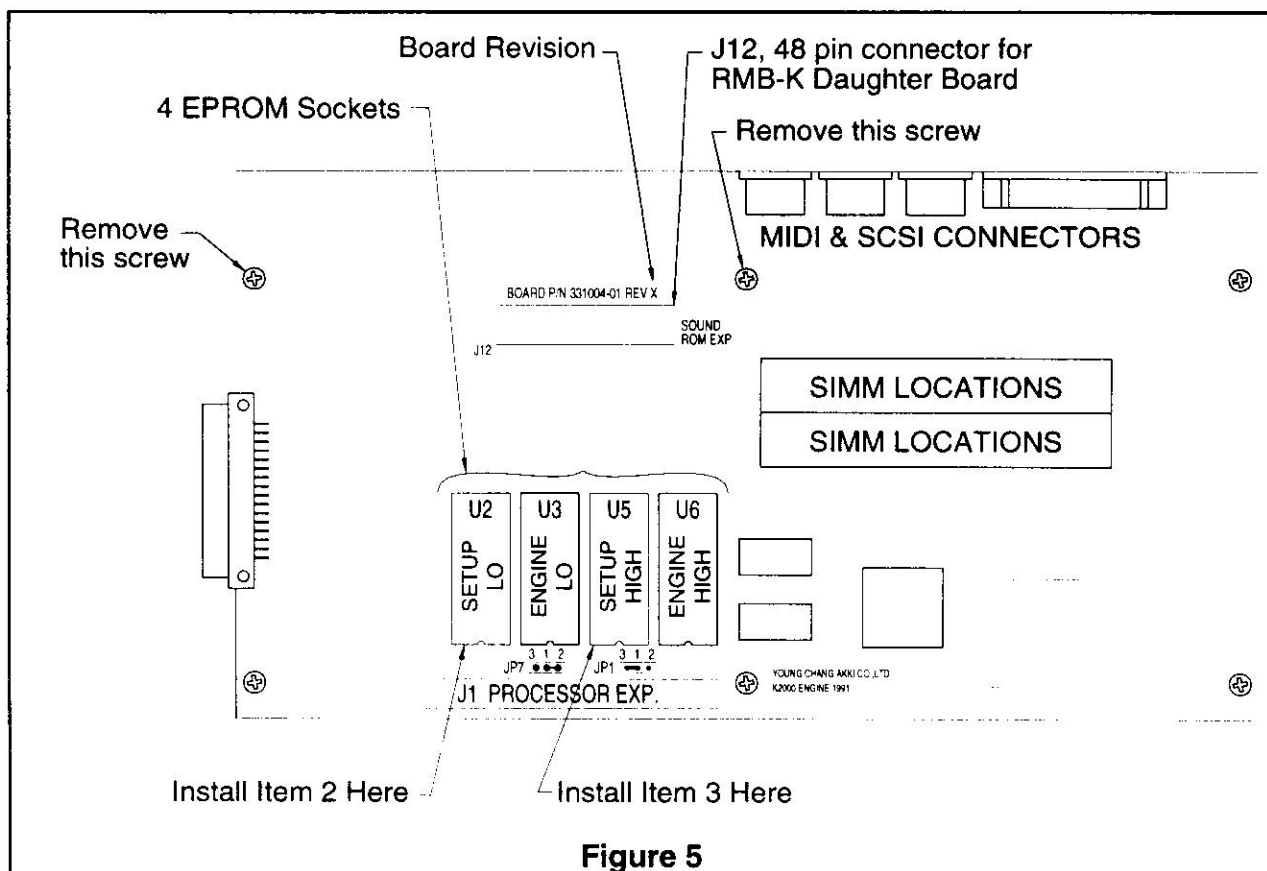

Figure 5
2. See Figure 5. Looking at the Engine PCB with the MIDI & SCSI connectors facing away from you, locate the four EPROM sockets. They are on the lower left half of the board above J1, the 64 pin connector labeled "PROCESSOR EXP."
3. See Figure 5. Find the two Setup EPROMs. Carefully remove the EPROMs using an EPROM puller.